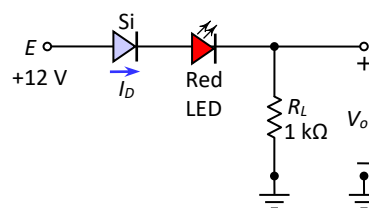

Fig.3-97: Diode circuit for Exercise 4
4. Determine V_o and I_D for the series circuit of Fig.3.97. The voltage drop across a red LED is 1.8 V.